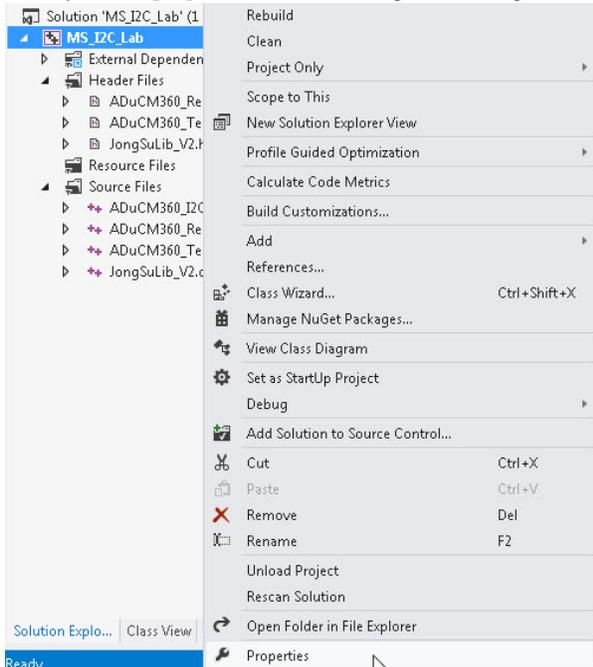
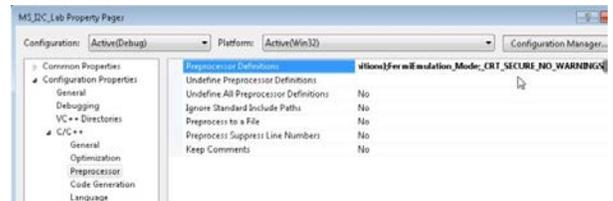

Figure 22. Select Properties
Figure 25. Define the Code
4. Modify certain properties as shown in Figure 22 to Figure 25.
6. For Visual C++ compiler only, define **FermiEmulation\_Mode**, as shown in Figure 25. This step predefines **FermiEmulation\_Mode** based on which Visual C++ code can be programmed to work with the embedded C code. When using other Visual Studio versions, the corresponding options shown in Figure 22 to Figure 25 need to be searched in the menu options, but the procedure is the same. Add **\_CRT\_SECURE\_NO\_WARNINGS** only for .NET (see Figure 25).